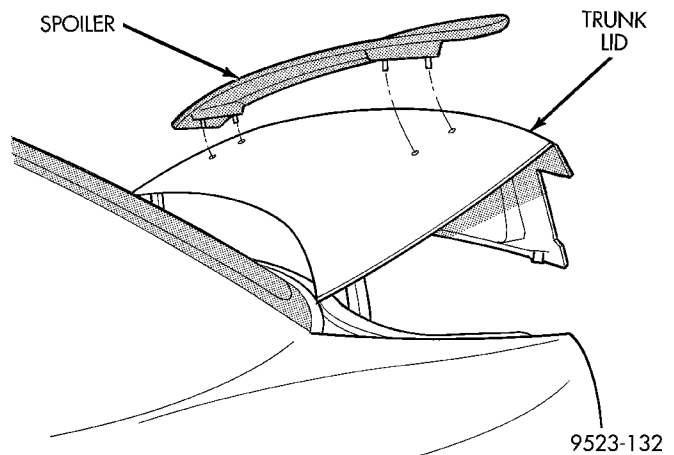

Fig. 80 Rear Spoiler
- (1) Release trunk latch and open trunk lid.
- (2) Remove nuts holding spoiler to trunk lid.
- (3) Separate spoiler from trunk lid (Fig. 80).